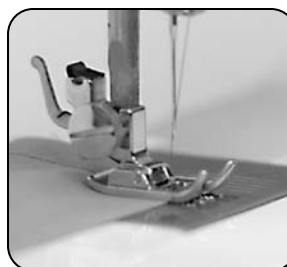

Fig. 2
9. Before removing the fabric raise the needle to the highest position [Fig. 2].